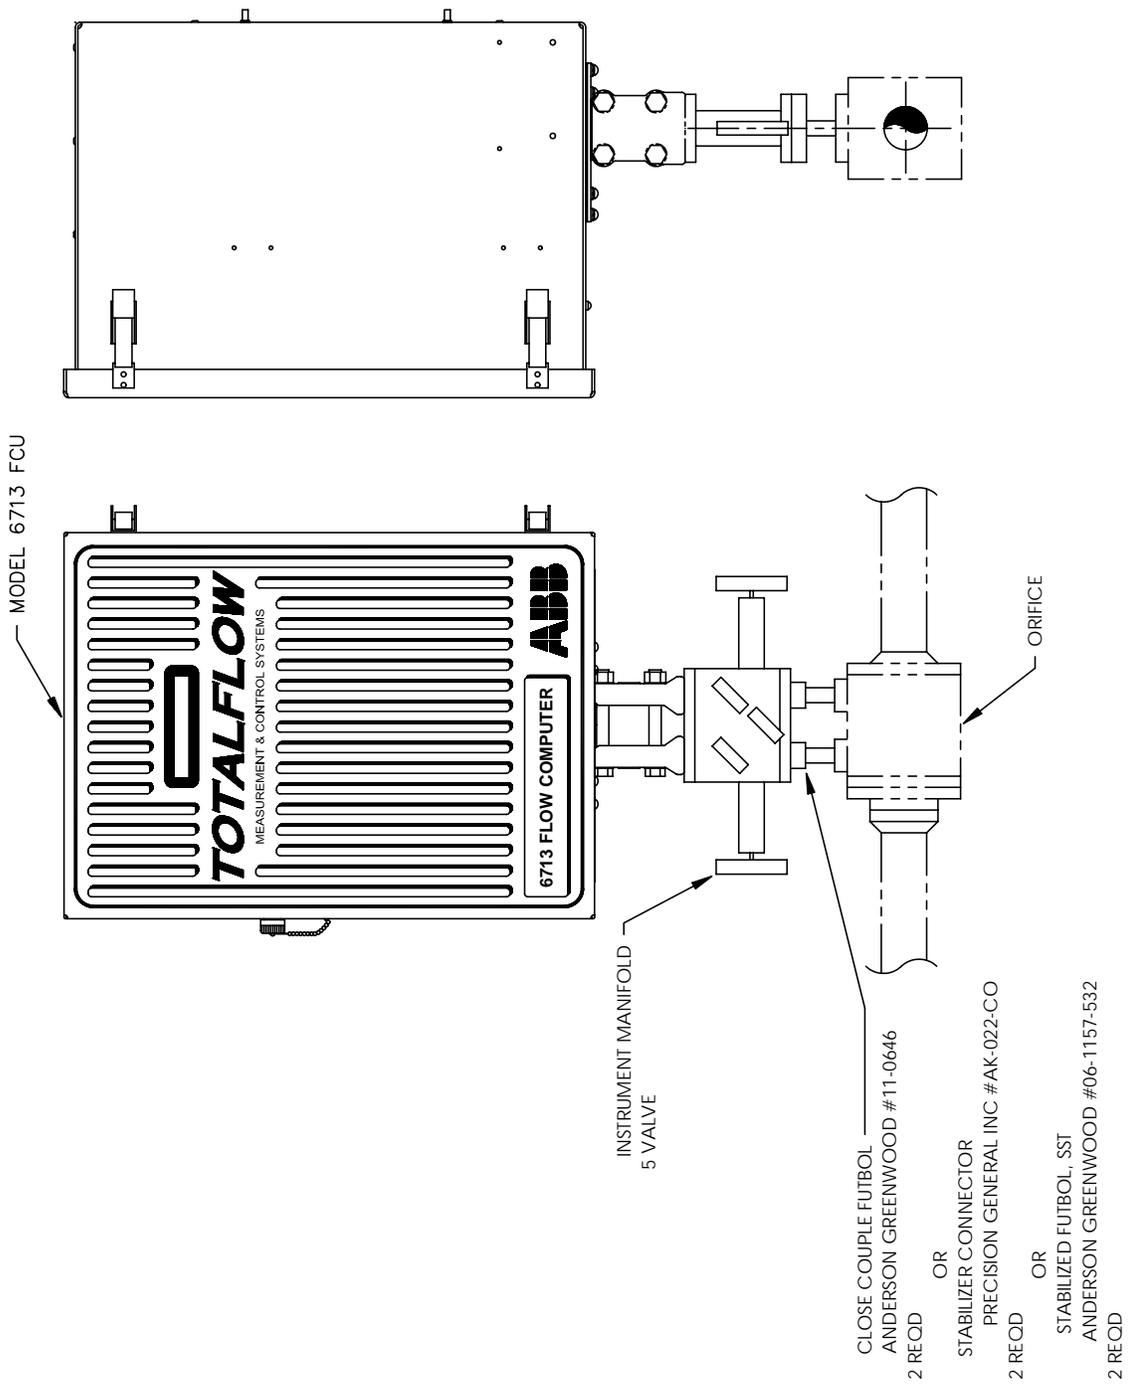

Figure 2-8. Model 6713, Direct Mount
If you are installing the FCU directly to an instrument manifold use this procedure. Before you begin, review the procedure and the Direct Mount Outline Drawings; see Figures 2-8 or 2-9.
1.	Referring to Figures 2-8 or 2-9 FCU Outline Drawings, attach the AMU to the instrument manifold. Before aligning with the manifold ensure that Teflon seal rings are in place around the two process ports.
3.	Refer to Figure 2-8 or 2-9 and complete installation.